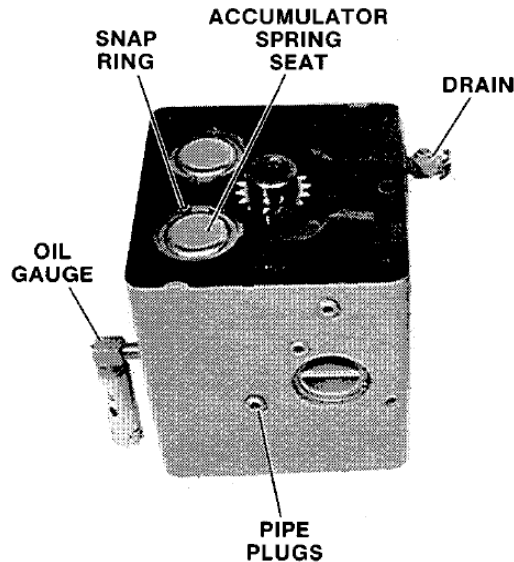

Figure 5-22. Power Case
- Use an arbor press to hold the spring and remove the snap ring. Slowly release the compressed accumulator spring and spring seat (Figure 5-22).